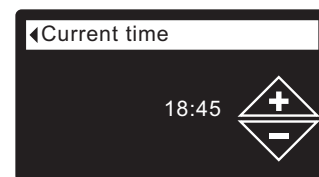

FIG. 52
5. Press the SELECT (O) button to display the Current time screen (See Figure 52).